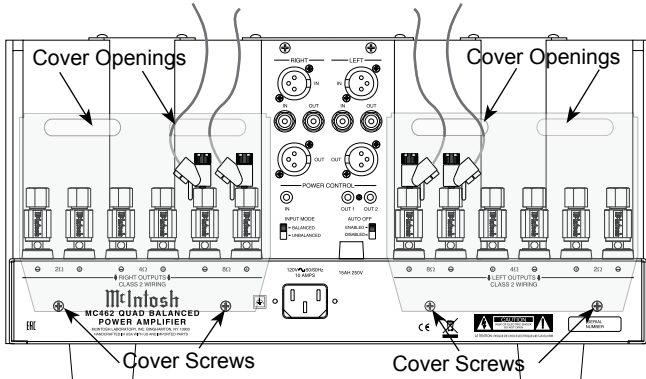

Figure 5 (Inside USA and Canada)
7. Locate the Terminal Connections Covers from the inside of the MC462 shipping carton. Insert the just prepared Loudspeaker hookup cables thru the cover openings, one cover for each channel. Refer to figure 5.
*Note: The illustration in figure 5 is connections for 8Ω (ohms) Loudspeakers.*
11. Attach the Terminal Connections Covers to the MC462 Rear Panel with the previously removed Screws. Refer to figure 5.